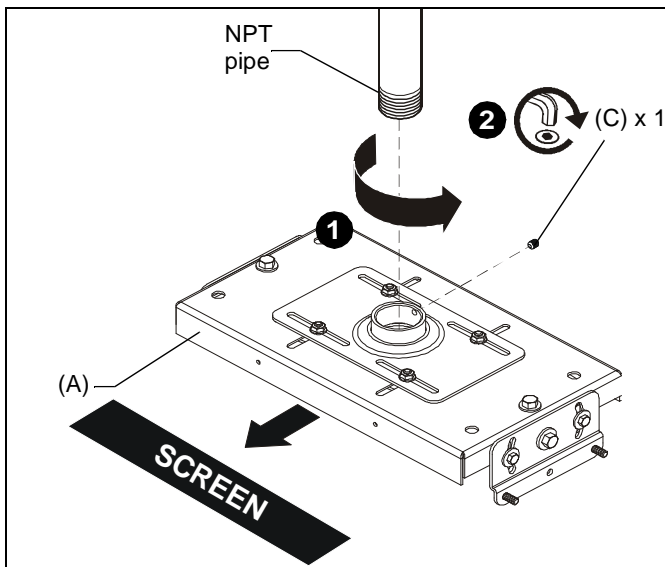

Figure 1
1. Thread the VCM mount (A) onto the existing 1-1/2" NPT pipe until tight with a minimum of four threads engaged. ((Siehe Abb. 1))
**NOTE:** Ensure that long edge of VCM mount is located parallel to the screen. ((Siehe Abb. 1))
2. Tighten the 5/16-18 x 3/8" set screw (C) into the VCM mount threaded collar to prevent movement of the VCM. ((Siehe Abb. 1))